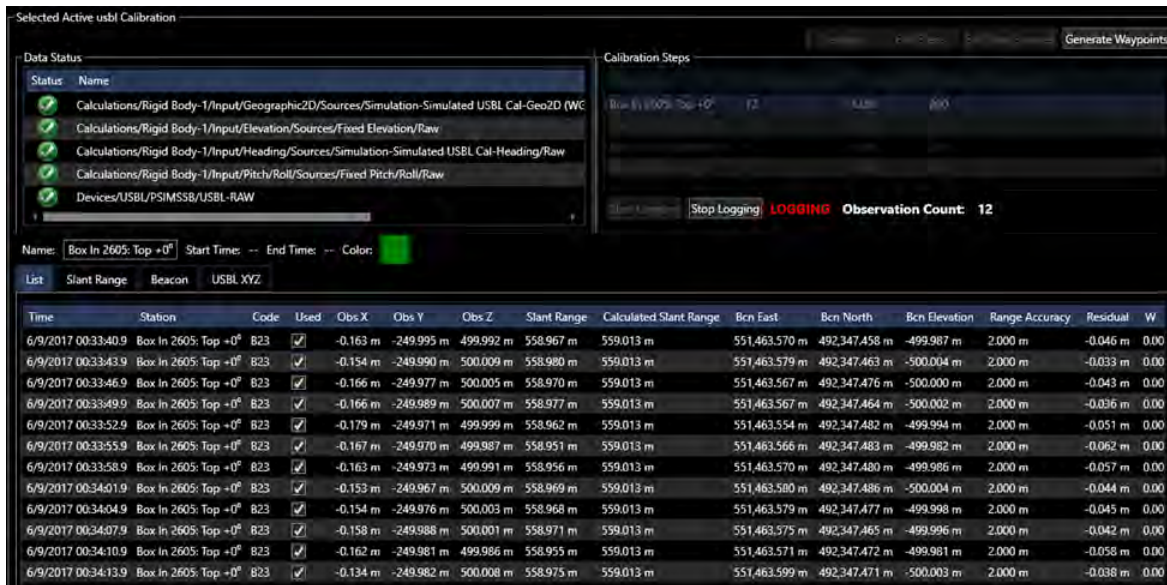

FIGURE 16-14 ACTIVE CALIBRATION - DATA LOGGING
- The **Start Logging** button will be disabled and the **Stop Logging** button will be enabled (see Figure 16-14)